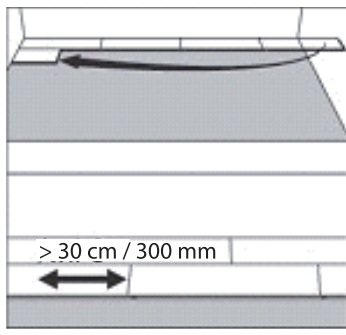

Figure 2
5. Cut the final board piece to length, never less than 30cm/300mm. (figure 2)
2. Position the long side of the first board in place overlapping the groove of the planks in the previous row by approximately 3mm. Then angle the end joint into the previous plank. Angle the plank up and gently push forward until the plank locks into the previous row. (figure 2) Slide the board to the left/right as necessary to align the edges of the end joint.
7. Whenever practical, use cut pieces from previous rows as the starter board to reduce waste. (figure 2)
8. Maintain 30cm/300mm spacing between end joints after the first four rows for best appearance. (figure 2)